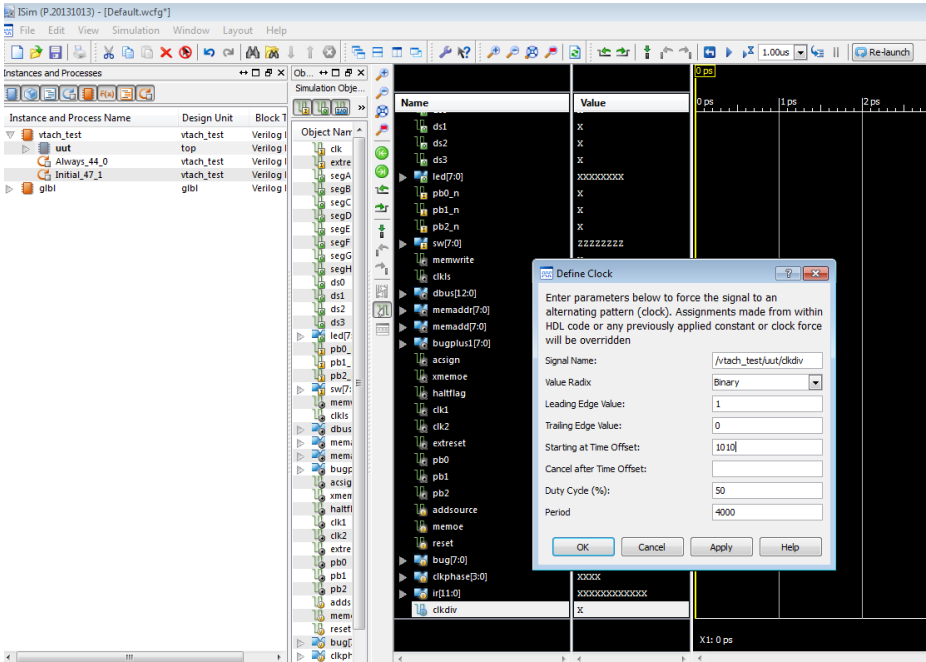

Figure 5-26 Force clkdiv
3. Now go to the bottom of the wave window, right-click the signal `clkdiv`, and, as shown in Figure 5-26, force the clock to have a leading edge value =1 of trailing edge value of 0, and a period of 4000. Set Starting at Time Offset to 1010 and click OK. This is required because there is a slight problem with the way the clock divider design is implemented and the way iSim sees it without a delay through the register. This is a shortcut hack, but sometimes it's okay to do this because we know that the design works in the real logic. It didn't seem worth the effort to try to fix it for simulation.